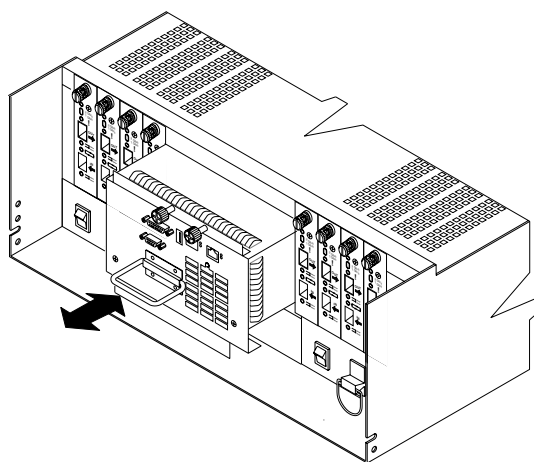

Figure 42. Removing and installing a fan and communications module
The fan and communications module is a single, removable unit containing two cooling fans and two Ethernet ports. This module plugs into a slot at the center back of the FAST700 Storage Server, just above the power supplies (see Figure 42 on page 44). It has a locking lever and a pull handle for securing and removing the fan and communications module. The module contains dual fans that provide a redundant cooling system to both power supplies. If one fan within the module fails, the other continues to operate. A single fan provides sufficient air circulation to prevent the power supplies from overheating until you can replace the entire fan and communications module.
2. Using Figure 42 on page 44 as a guide and use the following steps to remove the failed fan and communications module from the FAST700 Storage Server.